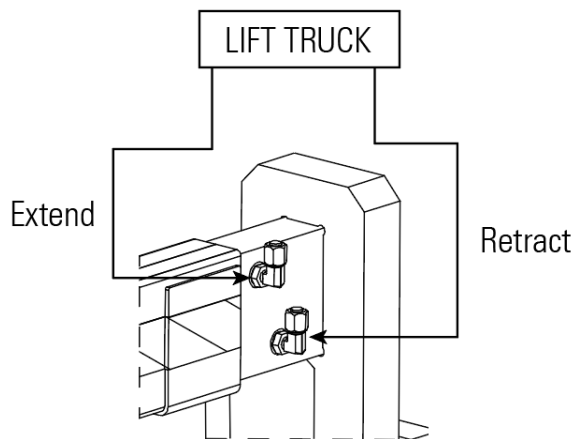

Figure 7.1 A diagram showing how to attach the jib crane's hydraulic hoses
2. Attach the hydraulic hoses supplied with the jib crane and those on the forklift truck as shown in Figure 7.1.